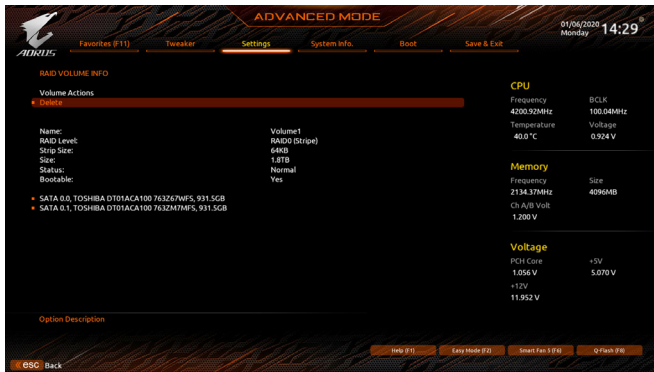

Figure 11
After completing, you'll be brought back to the **Intel(R) Rapid Storage Technology** screen. Under **RAID Volumes** you can see the new RAID volume. To see more detailed information, press <Enter> on the volume to check for information on RAID level, stripe block size, array name, and array capacity, etc. (Figure 11)